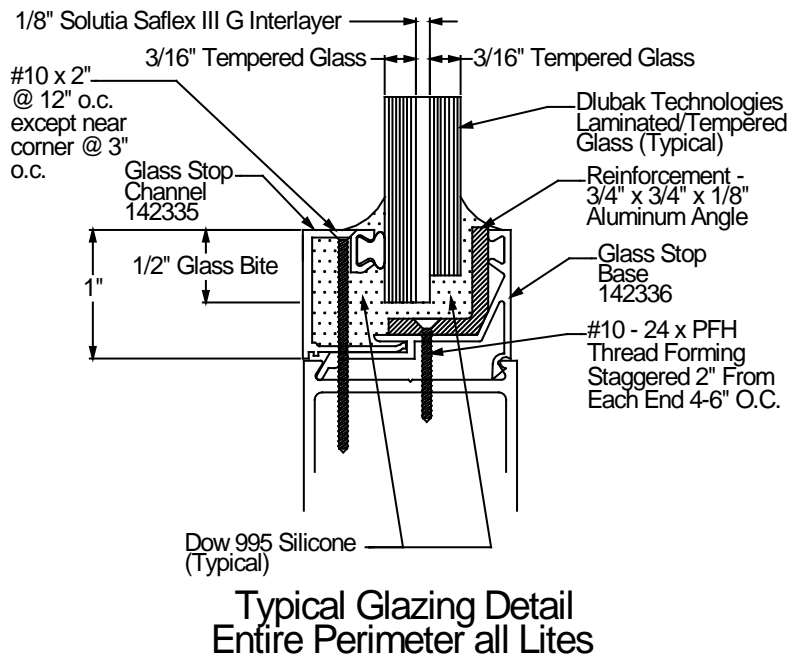

Figure 10
3. The use of approved glazing materials is required. (See Figure 10)